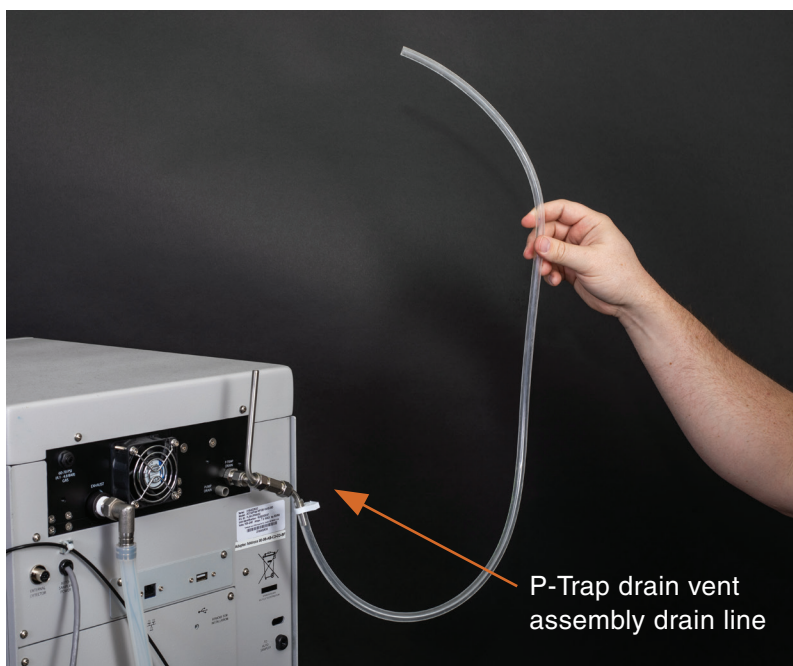

Figure 2-11 Keep liquid level lower than the top of the system
3. The P-trap must be filled with fluid to prevent sample loss. To accomplish this, raise the drain tubing attached to the P-trap drain vent assembly above the instrument and place 10 mL of liquid, such as isopropyl alcohol, into the tube. Make sure the fluid level in the tubing doesn't exceed the level of the instrument case top. If the tubing is raised too fast, fluid may flow out the top of the vent tube causing a spill. Lift it high enough so the fluid enters the P-trap drain (Figure 2-11).